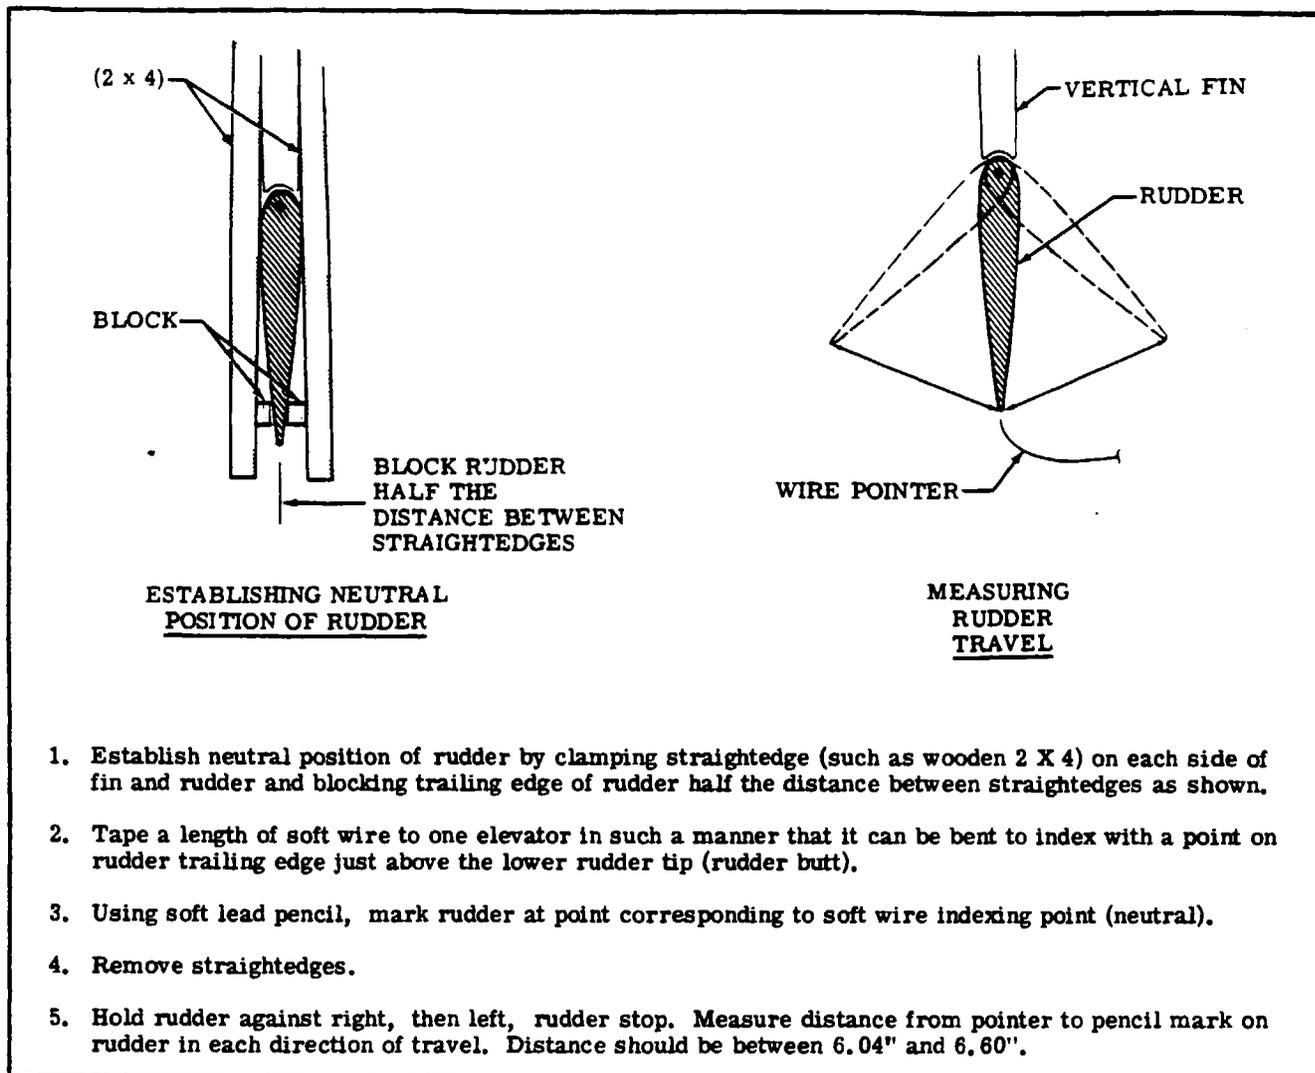

Figure 10-4. Checking Rudder Travel
- a. Adjust travel stops (8) to attain travel specified in Section 1. Figure 10-4 illustrates correct travel and one method of checking.